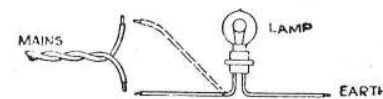

FIG. 4.
**(19) Earthed Main.**—If one of the mains is earthed, it is very desirable to connect the battery on to it. The mains may be tested by connecting a wire from a water pipe or other earth to a lamp of "mains" voltage, the other wire from the lamp being connected to each of the mains in turn (fig. 4). (Be exceedingly careful not to "short circuit" the mains when testing in this manner. Unless one has some familiarity with matters of this kind, it is preferable to call in an electrician.) If the lamp lights to full brilliancy on one main and not on the other, the main on which it does **not** light is the one which is earthed, and the battery should be connected to it. If the lamp does not light on either main, or it
2. **MAINTENANCE.**—In order that the construction and working of the Klaxon may be easily understood, a section is illustrated in Fig. 4.
4. **OPERATION.**—Revolved by reason of its being attached to the armature shaft is the hard steel rotor **R** (see Fig. 4), which engages a hardened steel stud **S** fixed in the centre of the chrome vanadium steel diaphragm **D**.
5. **ADJUSTMENT.**—First loosen the lock-nut by a spanner, as shown in Fig. 5. This lock-nut can also be seen at **L** in Fig. 4. Then, after lock-nut is loose, start the current by pressing push-button. In other words, sound the Klaxon.